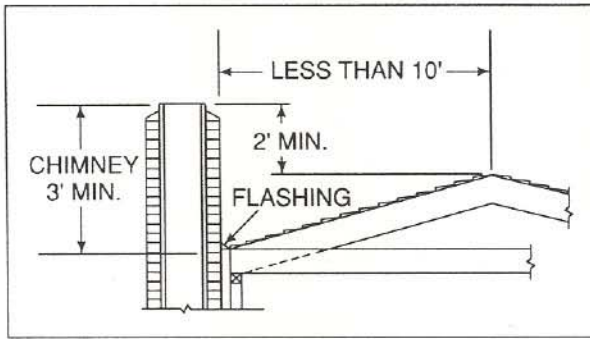

Figure 15
1. If the horizontal distance from the side of the chimney to the peak of the roof is 10 feet or less, the top of the chimney must be at least 2 feet above the peak of the roof, but never less than 3 feet in height above the highest point where it passes through the roof. See Figure 15 (page 11).